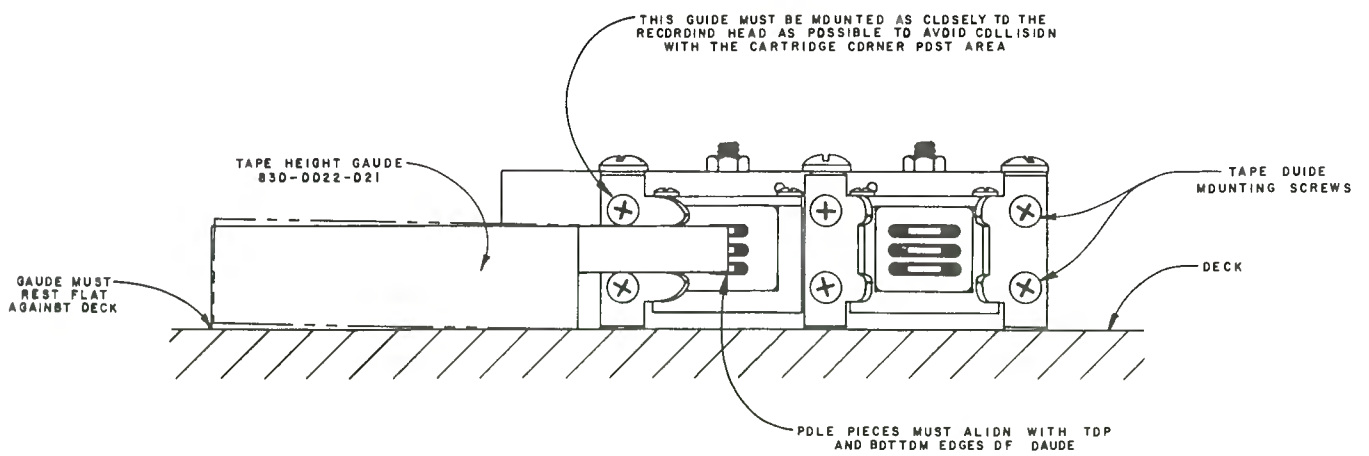

Figure 3-11
1. Check the positioning of each tape guide by advancing the tape height gauge into the tape guide as shown in Figure 3-11. The gauge should advance fully into the tape guide without friction, while resting flat on the deck -- not tilted as shown by the dashed line (or its opposite) in Figure 3-11. The tape height gauge must be demagnetized so that it will not magnetize the "heads". If gauges become magnetized, they can be de-Gaussed using a standard bulk eraser.
3. Keeping the tape height gauge flat on the deck, position the tape guide as shown in Figure 3-11. Position the tape guides as close to the head as possible without contacting the head mounting blocks or any parts mounted on these blocks. Keep the tape guide vertical.
- a. Position the gauge in front of the face of the head as the tape would be positioned if it were being played as shown in Figure 3-11.